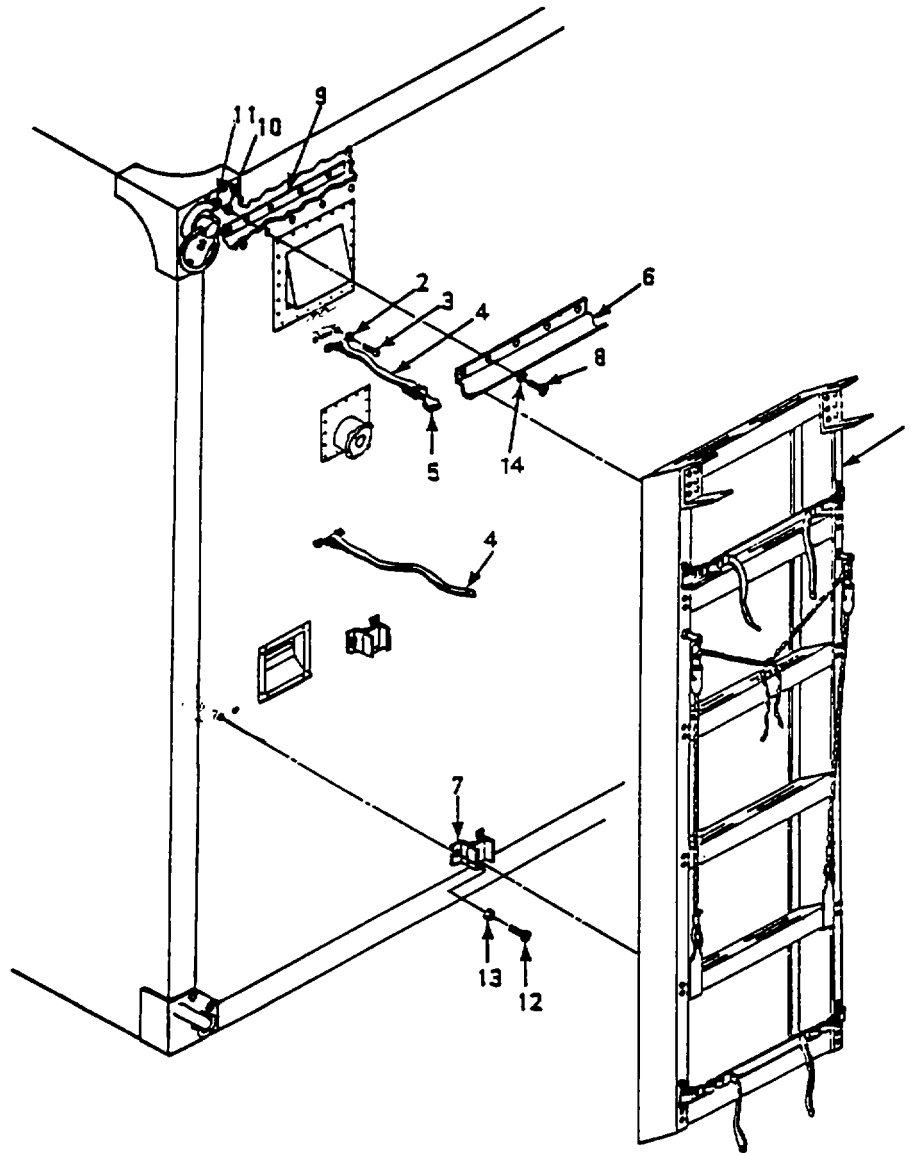

Figure 4-23. Ladder Assembly
a. Inspect. (See Figure 4-23.)
- (1) Check shelter rear ladder assembly for security and completeness.
- (2) Inspect ladder (1) for dents and cracks.
- (3) Check ladder assembly fastener loops (2) and screws (3) for security.
- (4) Check ladder assembly retaining strap (4) and buckle (5) for security and condition.
- (5) Check ladder assembly upper mounting bracket (6) for cracks, rust, corrosion, security of attachments, and sealant condition.
- (6) Check ladder assembly retainer brackets (7) for cracks, rust, corrosion, security of attachment, and sealant condition.
b. Replace. (See Figure 4-23.)
- (1) Unlatch ladder assembly retaining strap (4).
- (2) Remove ladder (1).
- (3) Remove screws (3) and retaining strap fastener loops (2).
- (4) Remove retaining strap (4).
- (5) Remove upper mounting bracket bolts (8), backing plate (9), lockwashers (10), and nuts (11).
- (6) Remove upper mounting bracket (6).
4-27. LADDER ASSEMBLY. - Continuedb. Replace. - Continued (See Figure 4-23.)
b. Replace. (See Figure 4-23.) - Continued
c. Repair. (See Figure 4-23.)